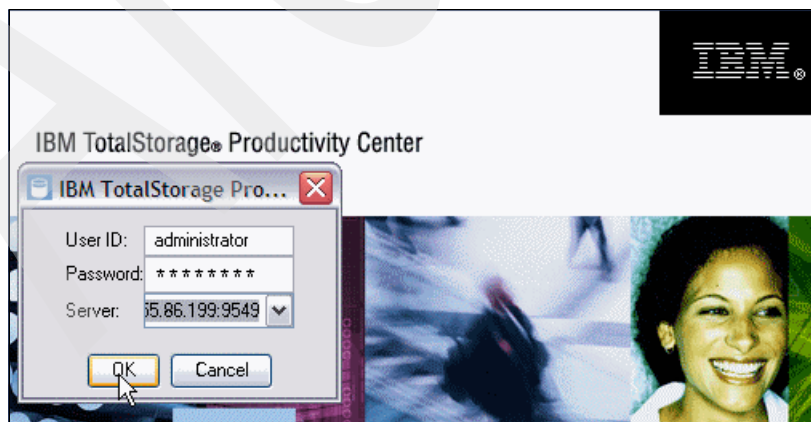

Figure 9-2 TCP GUI Sign On panel
3. The TPC GUI window display, as shown in Figure 9-2. Enter the information of user ID, password, and the SSPC server. Click **OK** to continue.